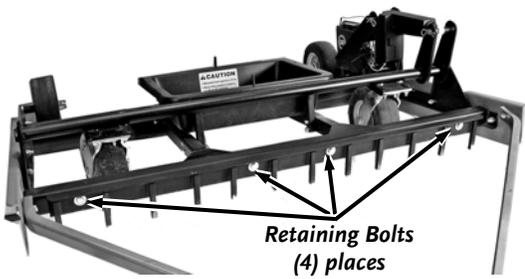

Figure 12
- Using two 9/16" Wrenches, loosen and remove the Retaining Bolts on the Scarifying Teeth Plate (**Figure 12**).